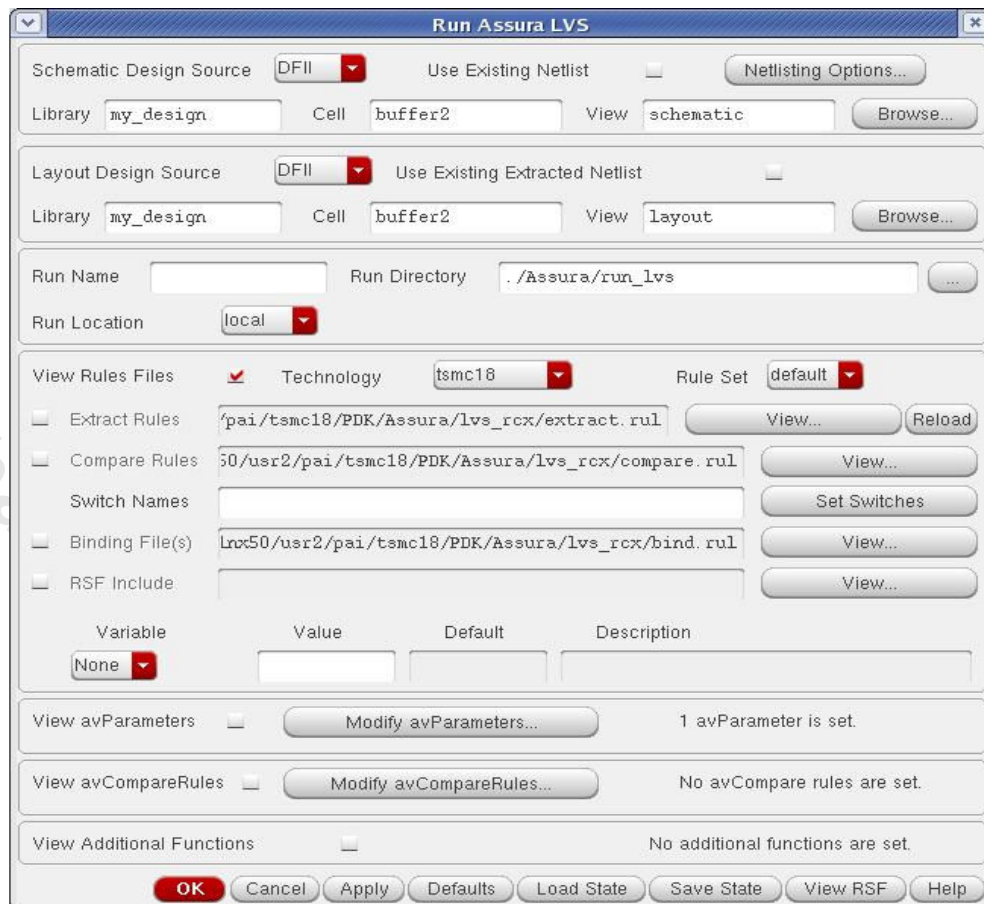

FIG. 24 Assura LVS setup window
- Fill in the “Assura run directory” and select the “Technology” field to “tsmc18” (Fig. 24) in Assura LVS window. You can also set the Assura LVS switches and other parameters if needed.